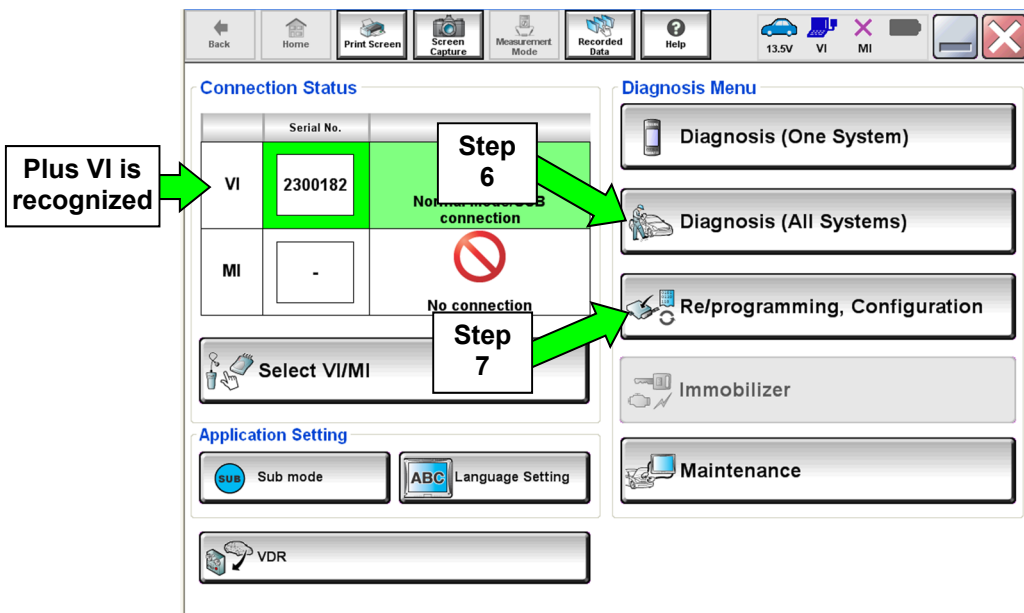

Figure 1
7. Select the **Home** button and then **YES** to return to the screen shown in Figure 1, and then select **Re/programming, Configuration**.